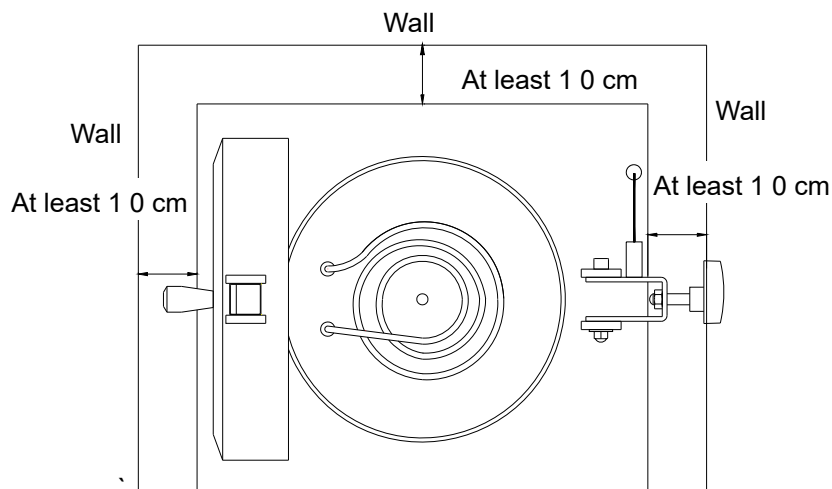

Figure 2
- A. Position the sterilizer on a stable laboratory bench or work surface, ensuring at least 10 cm clearance between the wall or other pieces of equipment and the sides of the unit for free circulation of air as Figure 2.